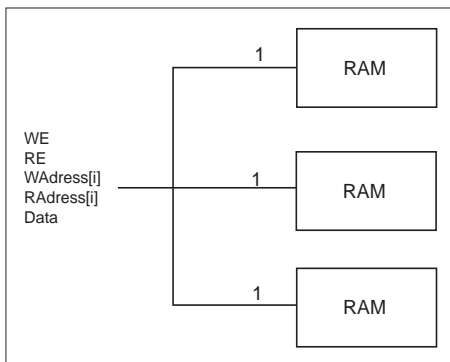
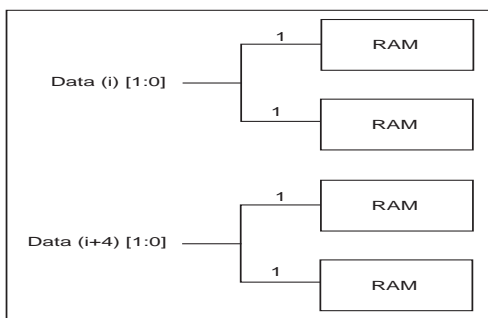

Figure 12-2. Manual Buffering (96x8 RAM Configuration)
Figure 12-3. Manual Buffering for the Data Bus (128x8 RAM Configuration)
Figure 12-2 shows how manual buffering is done. A fan-in of one (1) is enforced on all signals fanning out to more than one RAM cell. If these signals were broadcast to all RAM cells, very slow routing resources (long freeways) would be required to route the signals impacting the RAM performance.
Use Manual Buffering only if the expected performance is not realized using the automatic buffering scheme, or if you know ahead of time that you need to use this scheme to meet your timing goals. In this architecture, the idea is not to buffer the signals internally but rather give some kind of access to the RAM macro internal signals. Then, you must buffer the signals outside the macro and either use traditional buffers or duplicate the logic that drives these signals externally. If you choose manual buffering, the *WE*, *RE*, *Waddress(i)*, *RAddress(i)* and *Data[i]* signals become busses external to the macro. For all these signals, the bus width is equal to the number of RAM cells (used to build a given configuration) driven by each signal. Figure 12-2 illustrates the manual buffering architecture for a 96x8 RAM configuration, built of three 32x8 configured RAM cells. In this configuration, the *WE*, *RE*, *WAddress* and *RAddress* signals drive all RAM cells simultaneously. Figure 12-3 shows a 128x8 RAM configuration, built using four 64x4 configured RAM cells. In that